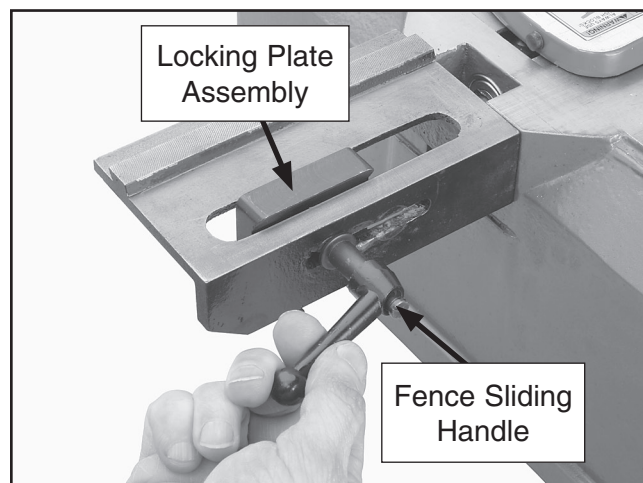

Figure 11. Securing the locking plate assembly with the fence sliding handle.
4. Secure the locking plate in position with the fence sliding handle as shown in **Figure 11**.